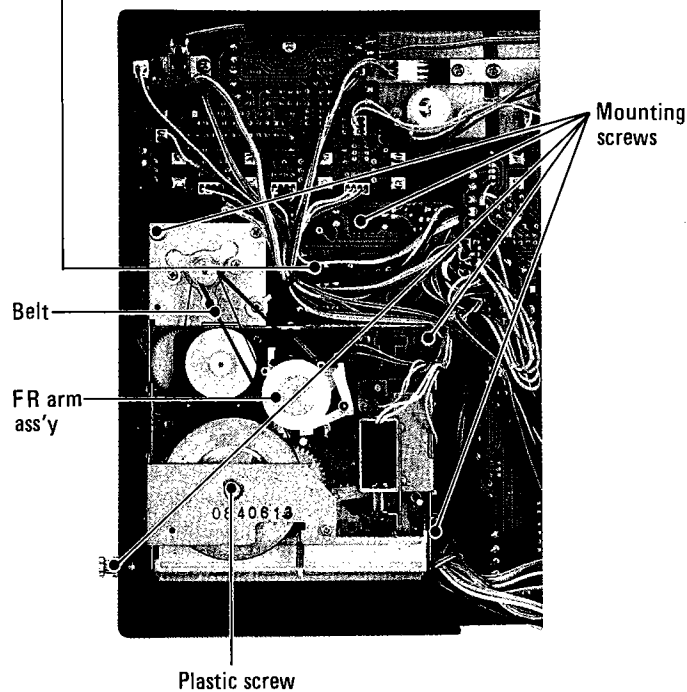

Fig. 7-2 Mechanism assembly
Turn the thrust adjusting screw (plastic) provided on the bottom of the flywheel. Refer to Fig. 7-2.
2. If the torque is out of the limits, change FR Arm Ass'y and belt, if necessary. (Refer to Fig. 7-2)
- d. Adjust the trim pot R2 (Refer to Fig. 7-2) provided on the control PCB with a small "—" driver to obtain 3000 Hz  $\pm 5$  Hz reading on the frequency counter.